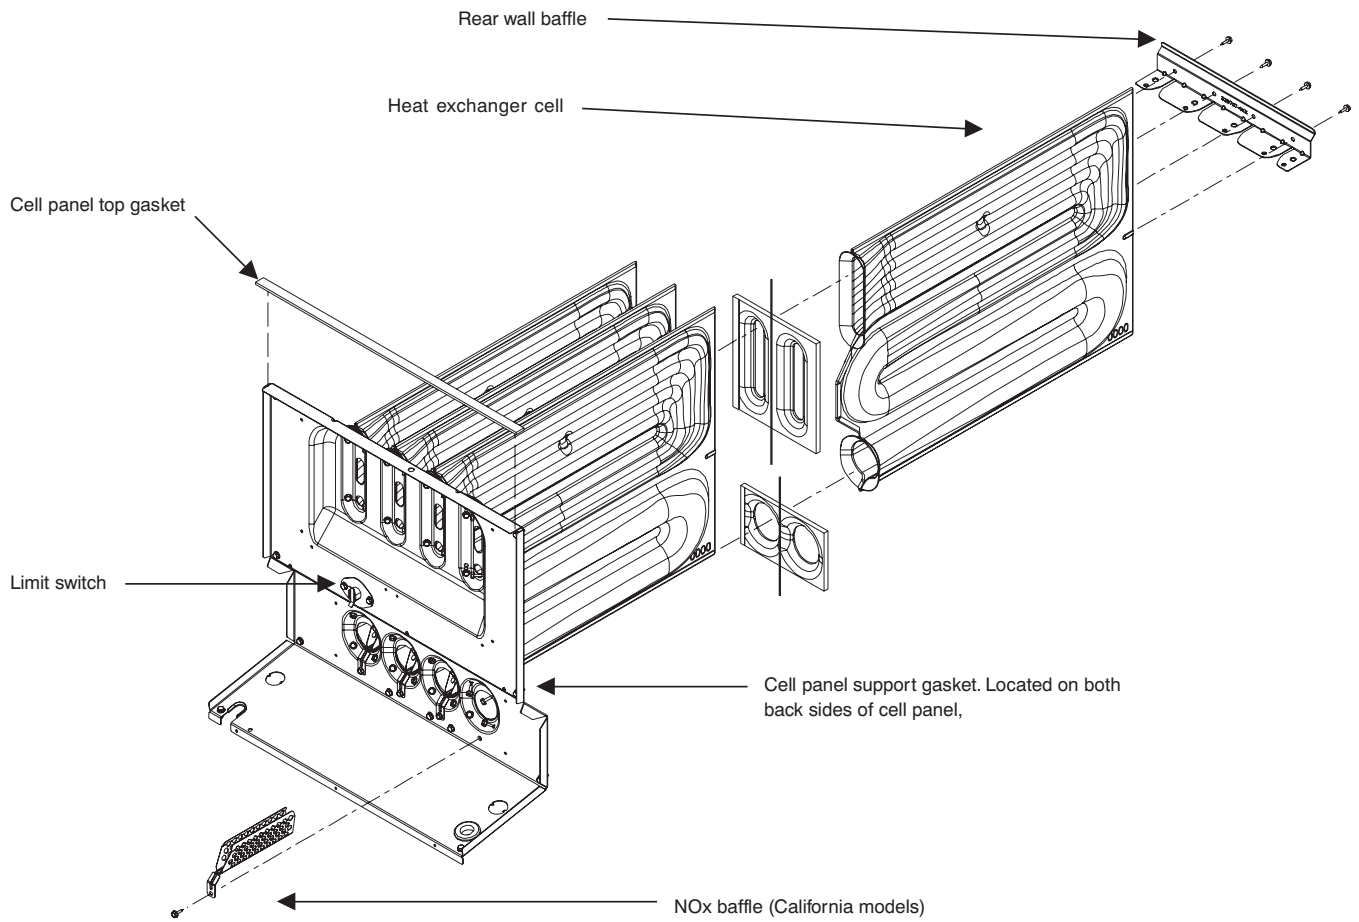

Fig. 1 – Heat Exchanger Cell Panel Installation
6. After all heat exchanger cells are replaced, re-install heat exchanger rear baffle on heat exchanger assembly. Be sure baffle is installed right side up. (See Fig. 1)